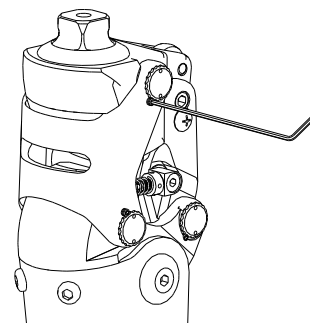

Fig.6
5. Try bending and extending on the knee to confirm the smoothness, then set the locking screw. (See Fig.6.)